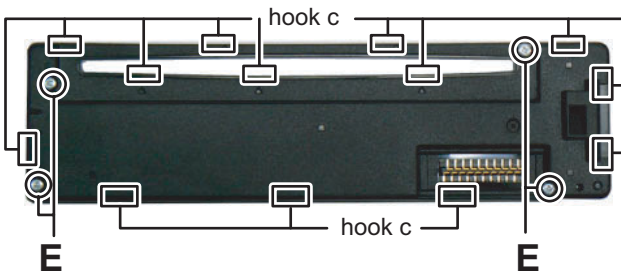

Fig.8
3.1.5 Removing the Switch board (See Fig.8)